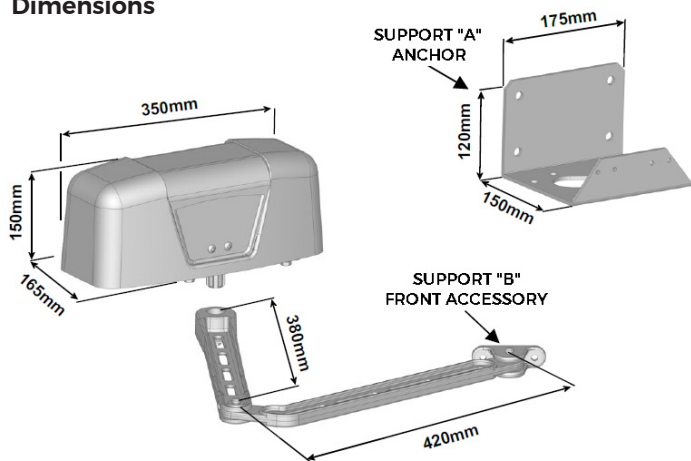

Fig.1
- 1.-Remove the plastic cover, Fig. 1.